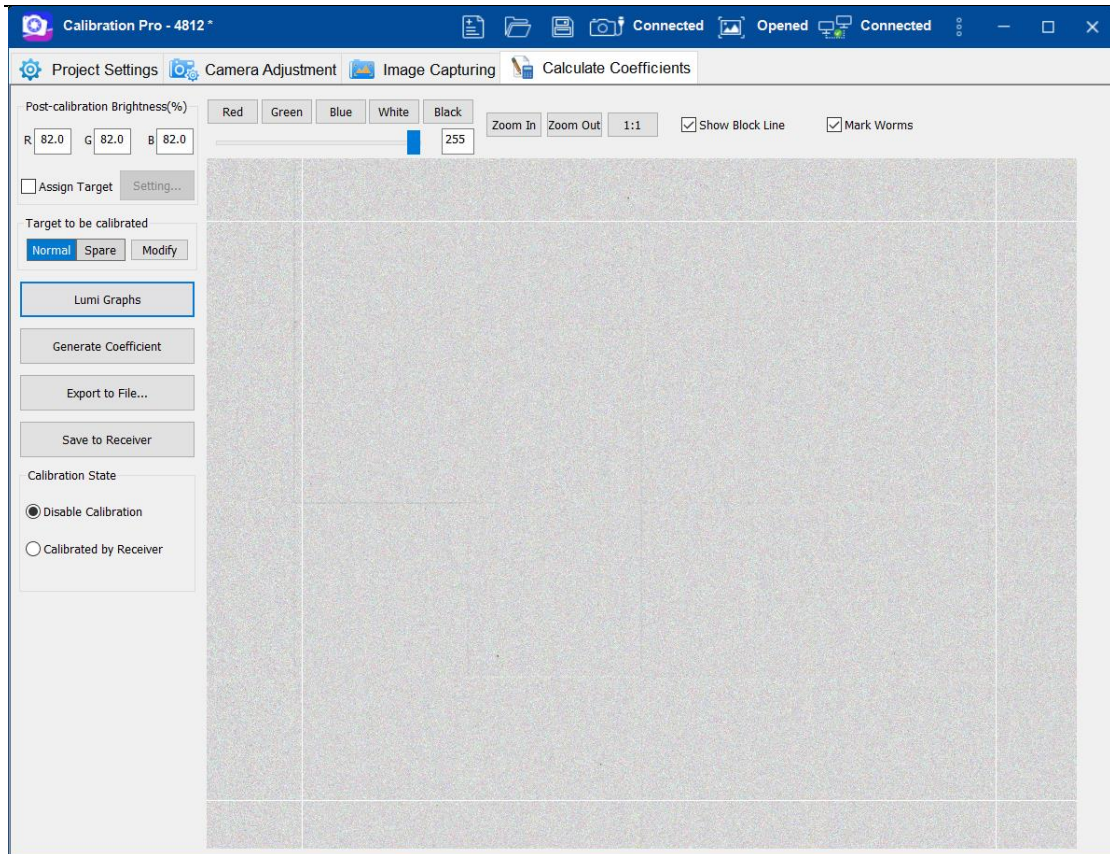

Fig. 3-30 Brightness Chart
1. The extracted brightness maps can be checked by selecting [**Coefficient**] → [**Brightness Chart**], as Fig.3-30 shown.